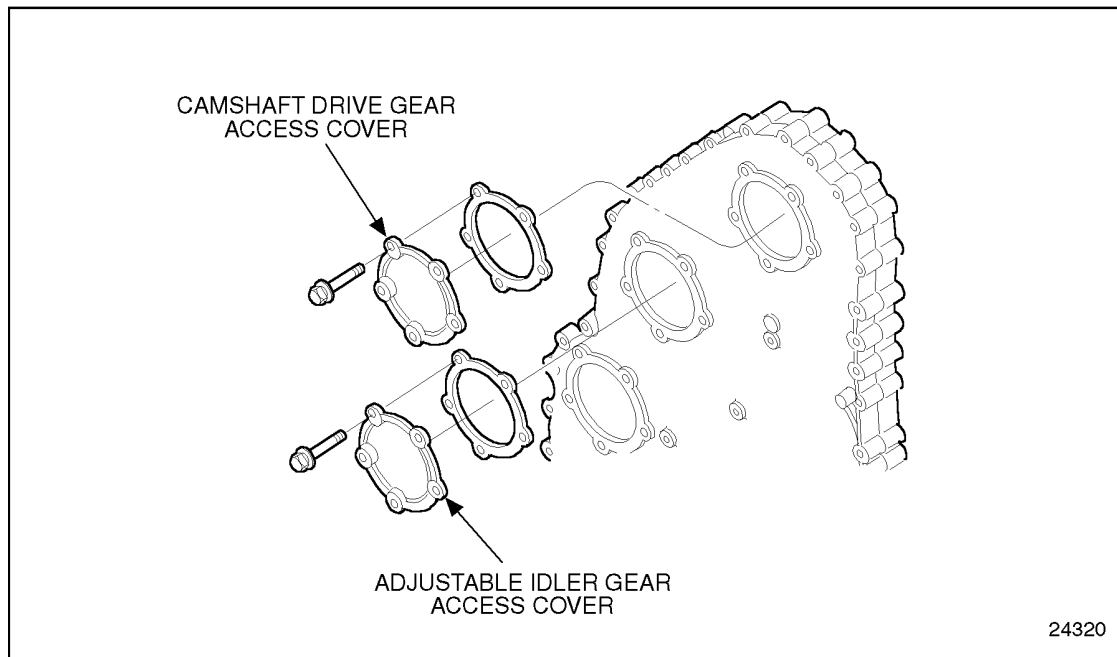

Figure 1-294 Camshaft Drive Gear and Adjustable Idler Gear Access Cover
Access openings are provided in the gear case cover for camshaft drive gear lash adjustment and camshaft retaining bolt removal. See Figure 1-294.
2. Remove the five bolts that secure the camshaft drive gear access cover to the gear case. See Figure 1-294.